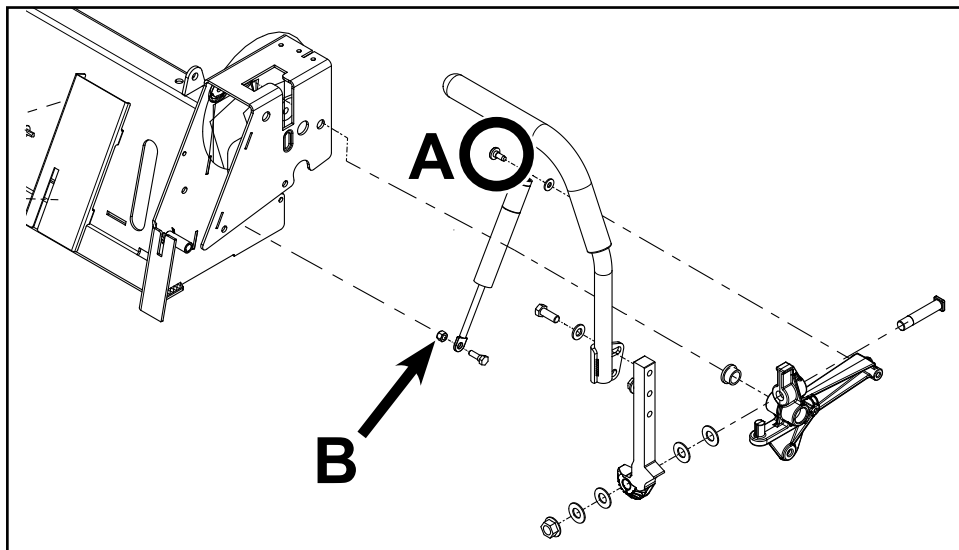

Fig. 020
1. Install the washer and upper damper eyelet to the actuator arm and torque the shoulder bolt (A) to specification – 7.5 ft-lbs. (10 Nm).
2. Install the lower damper eyelet to the Control Box and torque the nut (B) to specification – 7.5 ft-lbs. (10 Nm).
4. Check the motion control system for proper function. (Fig. 020)